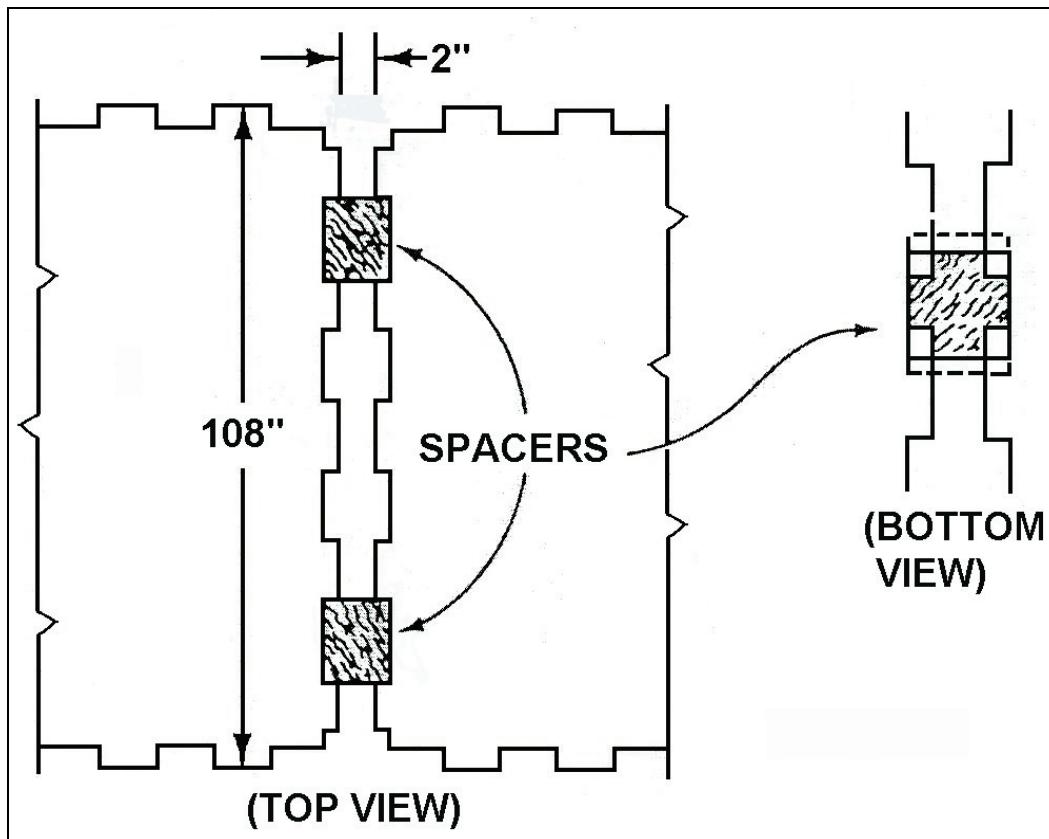

Figure 3-16. Sampler Spacer
- c. Place spacer between the ends of the indents of the pallets (see Figure 3-16).